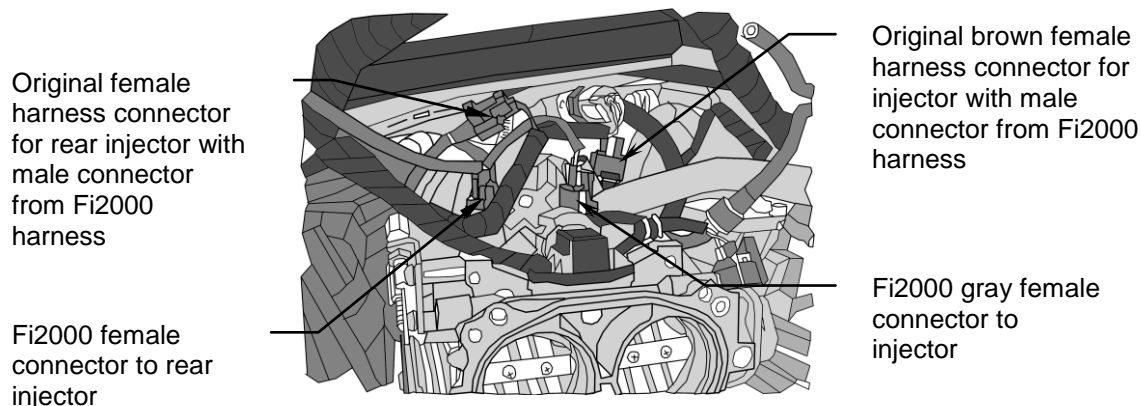

FIGURE 1
5. The injector connectors are accessible directly under the frame backbone, the front injector connector is brown, and the rear is gray. Unplug them and plug the Fi2000 matching connectors to the injectors, the forward most Fi2000 connector matches to the injector that has the original brown harness connector, Figure 1. Next, plug the corresponding male Fi2000 connector into the original Honda Fi2000 connectors.